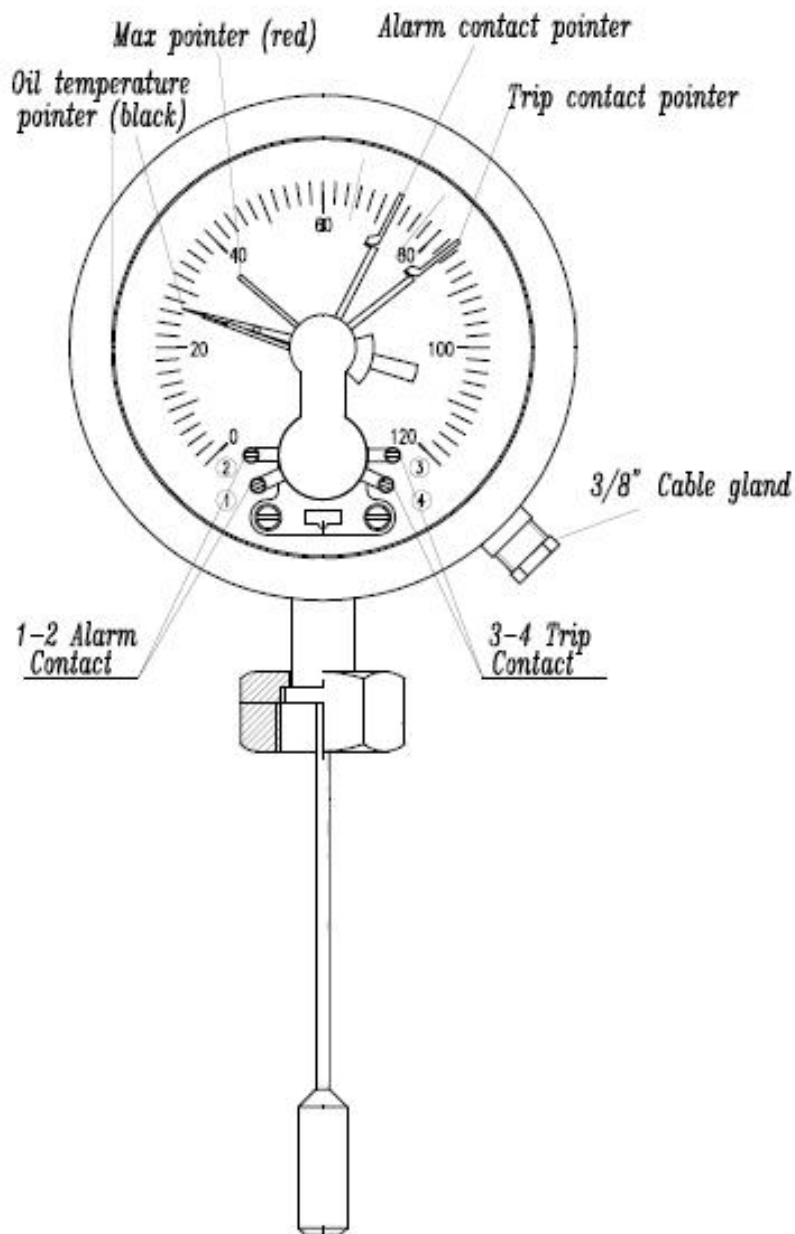

Figure 5 : Oil Temperature indicator widely used
- With 2 contacts (First Alarm and then tripping) (See Figure 5)